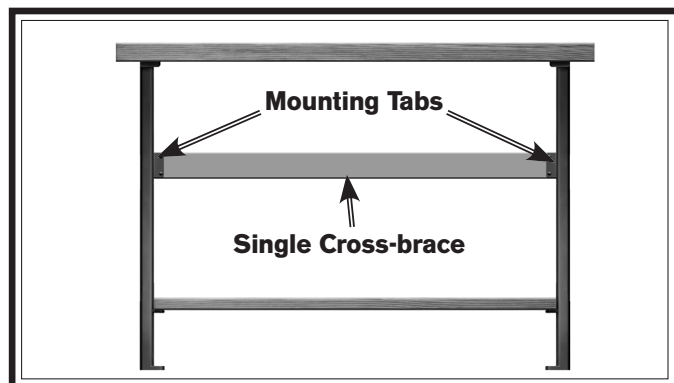

Figure 6. Single cross brace.
11. Install cross-bracing to provide additional stabilization between the legs, or between the legs and bench top. Two possible methods are shown in Figures 6–7